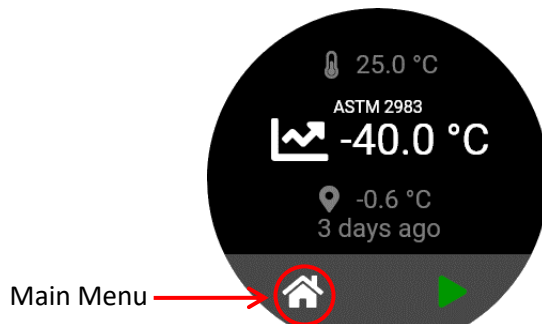

Figure 46: Home Screen of the Base Unit
2. On the Base Unit, press the **Home** button to go to the main menu screen. See Figure 46.